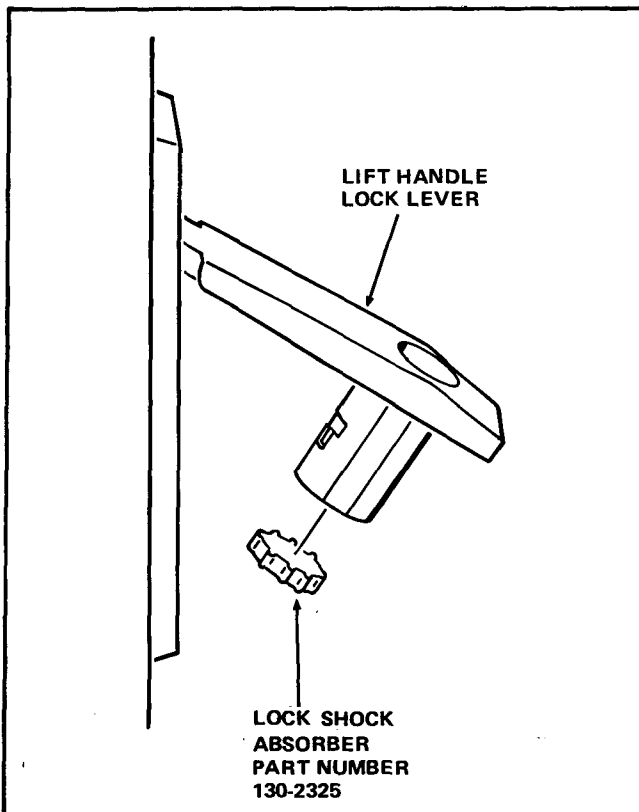

FIGURE 8
6. If the Lock to be used is a short-cylinder Lock, pull the Lift Handle Lock Lever out of the Lever Base and install Lock Shock Absorber, part number 130-2325 included in the Kit. Push the Shock Absorber into the back of the Lock Lever lock retaining cylinder. See Figure 8. The Lock Shock Absorber fills the space between the short type Lock Cylinder and the Door Latch Catch when the Lock Lever is in the locked position.